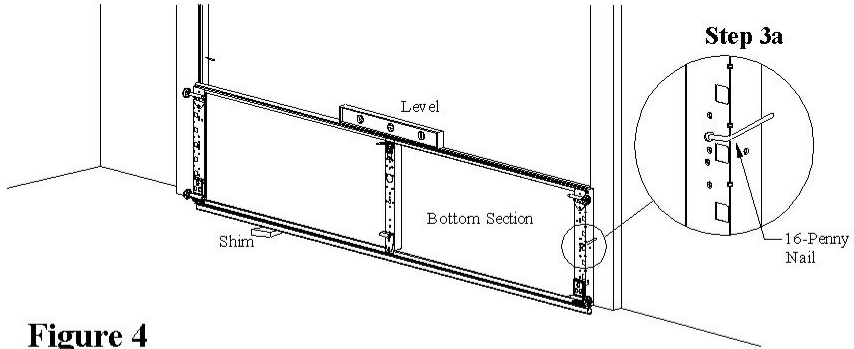
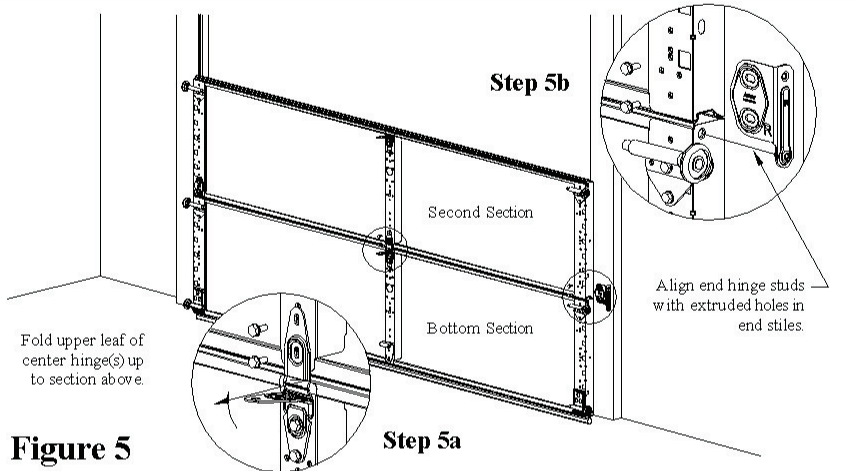

Figure 4
Figure 5
Place the hardware'd bottom section in opening against the perimeter seal and centered from side to side. Place a level on the top of the section. If necessary, use a piece of wood as a shim under the low side to make level (Figure 4).
Temporarily secure section in opening by driving a 16-penny nail in the jamb at each end of the section and carefully bend it over the edge of the section to secure in place (Figure 4). Make sure section is securely held in place.
Place the hardware'd second (lock) section on top of the bottom section and against the perimeter seal. Temporarily secure section in opening by driving a 16-penny nail in the jamb at each end of section and carefully bend it over the edge of the section to secure in place (Figure 4, Step 3a).
Once section is secured, fold upper leaves of center hinge(s) up and attach to second section using (2) 1/4"x5/8" universal screws (Figure 5).
Align the end hinge studs with the extruded holes in the edge of the end stiles and insert. Secure with (2) 1/4"x5/8" universal screws (Figure 5).
Place the hardware third section on top of the second section and against the perimeter seal. Temporarily secure section in place as before (Figure 4). Repeat steps 5a and 5b (Figure 5). Note: If you have two sections remaining, repeat Step 6 using a #4 roller carrier and Step 7 for the fourth section.